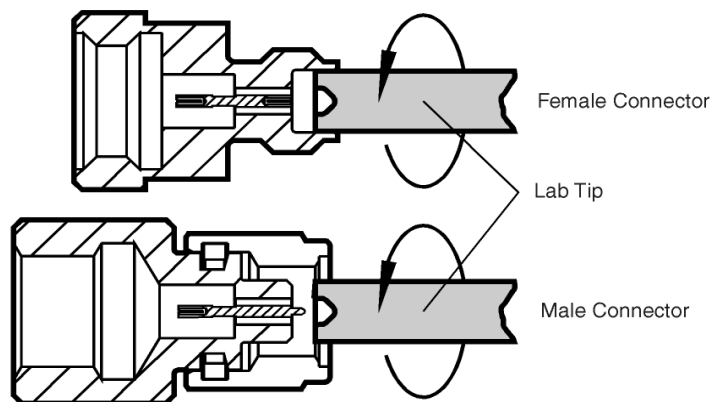

Figure 4-7 *Cleaning Illustration*
4. Gently wipe connecting surfaces with the end of the cleaning swab (refer to Figure 4-7).